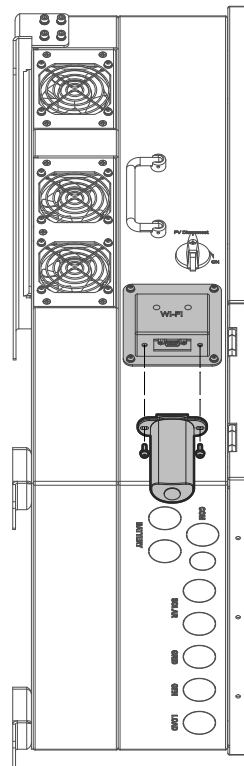

Figure 40: Connecting Wi-Fi dongle to Sol-Ark 12K-2P-N
- Reassemble the dongle housing and plug the dongle into the Sol-Ark. Secure with screws (see figure 40). You will see solid red and green lights after a couple of minutes.